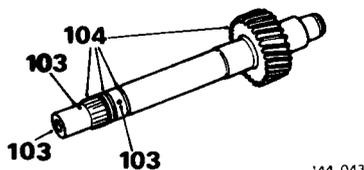

Fig. 42
- 103. Check the drillings in the shaft for obstruction; clear with compressed air only (Fig. 42).
- 104. Check the splines, sealing ring grooves and gear teeth for burrs or signs of damage; renew if damaged (Fig. 42). Minor burrs may, however, be removed with a very fine abrasive.